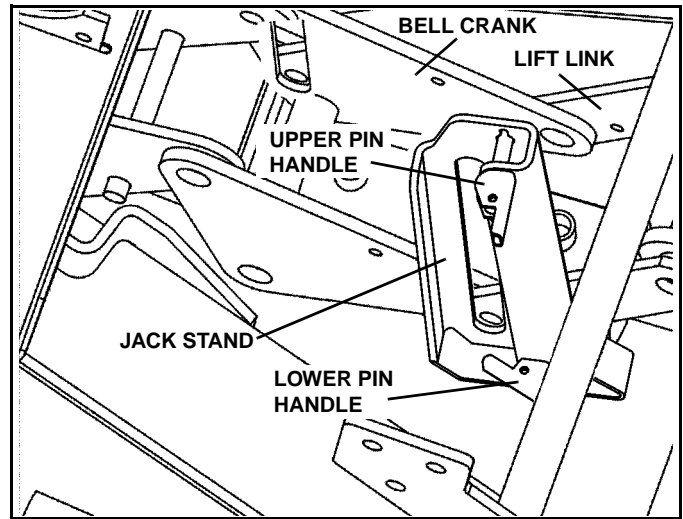

Figure 1-15
6. Disengage both jack stand pins by pulling on handles. Raise the jack stand and engage the bottom pin by pushing on the handle. Make sure pin is engaged in hole by rotating jack stand back and forth. (See Figure 1-15).